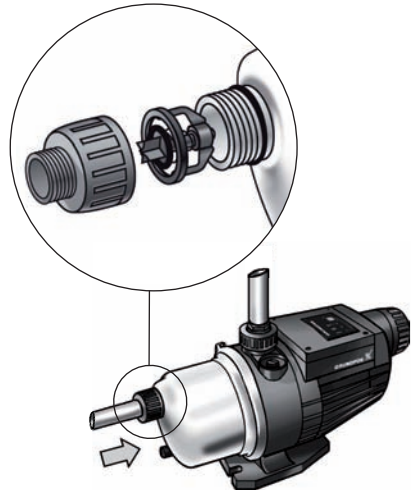

Fig. 8 Fitting of non-return inlet valve
Install the non-return inlet valve as follows, see fig. 8:
2. Fit the non-return inlet valve into the suction port in the direction shown in fig. 8.